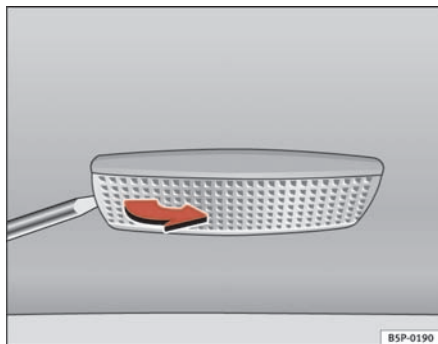

Fig. 170 Removing sunroof light
- Carefully remove the lamp, using the flat side of the screwdriver, as shown in the figure ⇒ fig. 170.